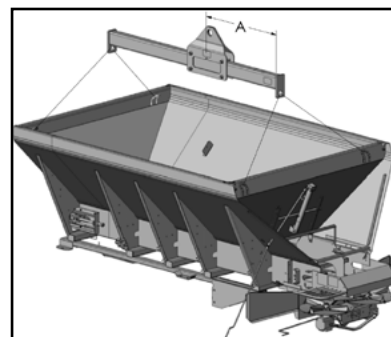

Figure 9 - Lift Spreader
1. Attach John Deere lifting device (see John Deere for part number and instructions) to each corner lift hook inside spreader as shown in Figure 9.